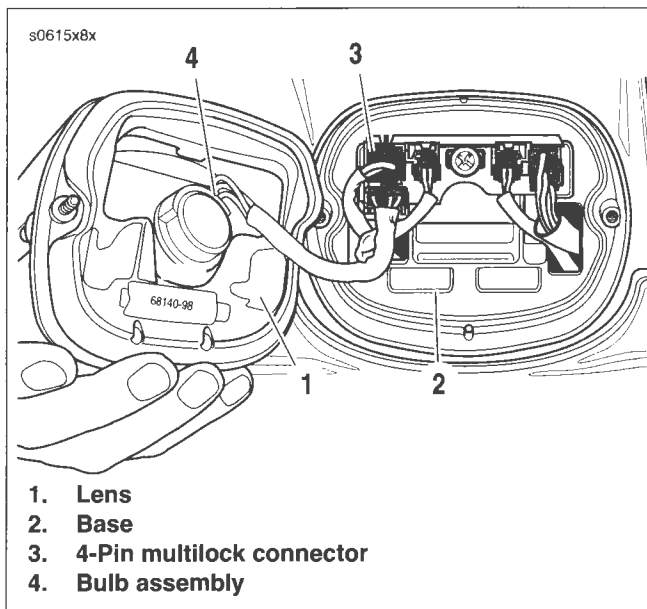

Figure 8-37. Tail Lamp: FLSTC, FLSTF
1. See Figure 8-37. Remove two screws and lens from base.